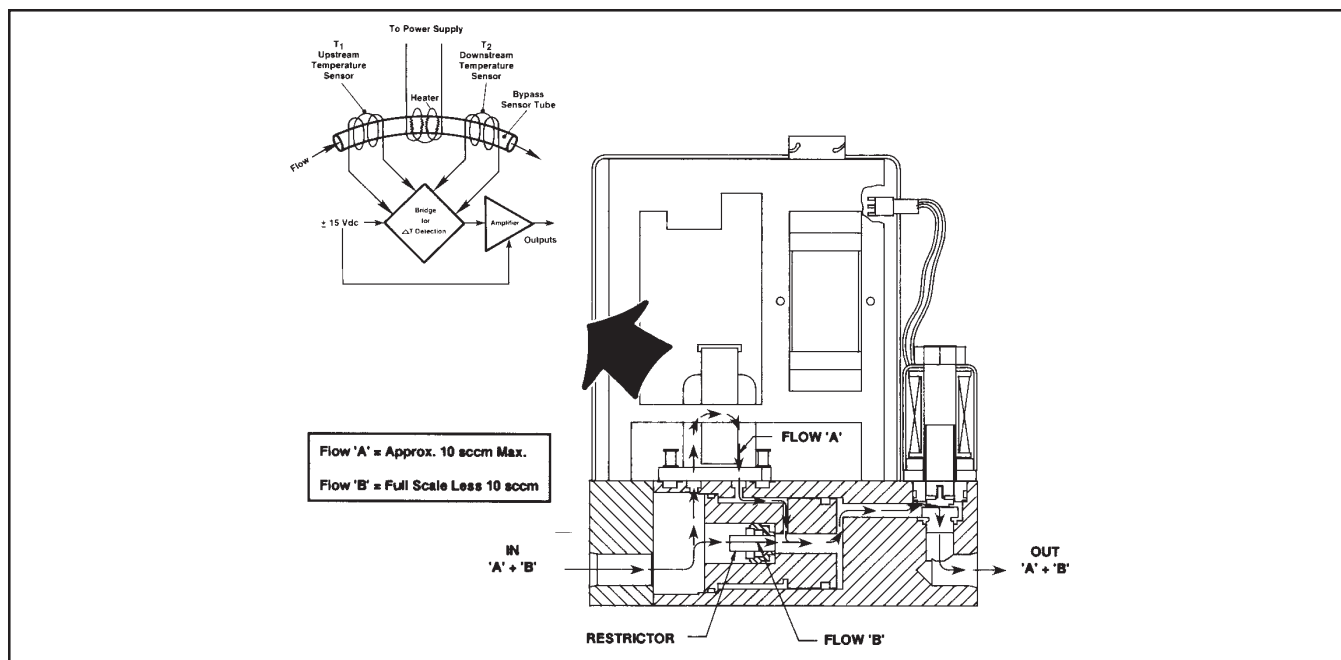

Figure 3-1 Flow Sensor Operational Diagram
A precision power supply provides a constant power heat input (P) at the heater, which is located at the midpoint of the sensor tube. (Refer to Figure 3-1) At zero or no flow conditions, the heat reaching each temperature sensor is equal. Therefore, the temperatures T1 and T2 are equal. When gas flows through the tube, the upstream sensor is cooled and the downstream sensor is heated, producing a temperature difference. The temperature difference T2-T1 is directly proportional to the gas mass flow.
The flow restrictor shown in Figure 3-1 performs a ranging function similar to a shunt resistor in an electrical ammeter. The restrictor provides a pressure drop that is linear with flow rate.